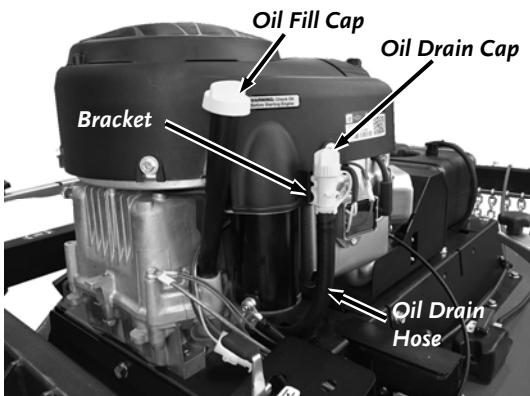

Figure 30
1. Remove the Oil Fill Cap/Dipstick (**Figure 30**).